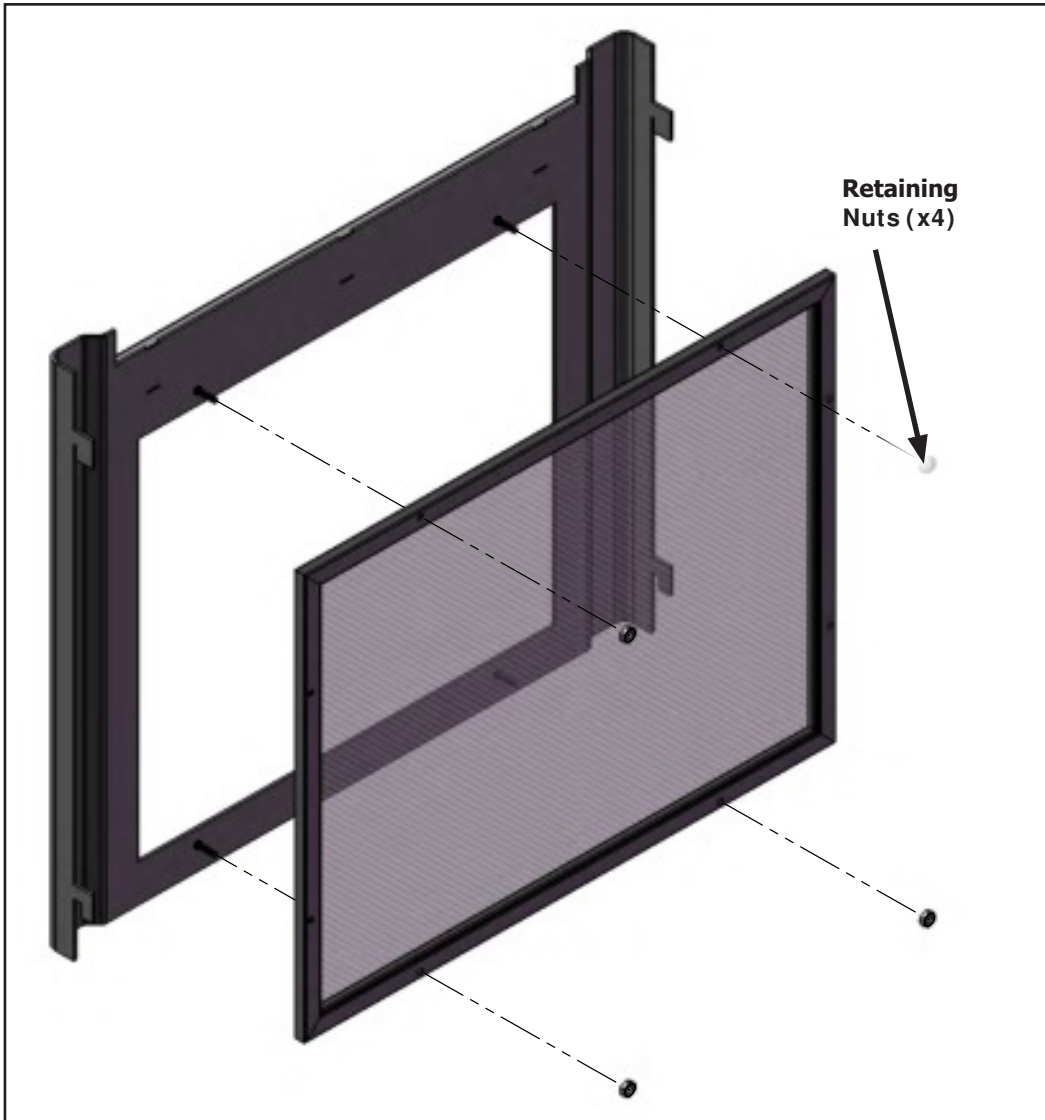

Figure 45. Safety Screen Removal
Step 3: Remove the four retaining nuts from the back of the steel door (Figure 45) using a 11/32" socket or wrench.